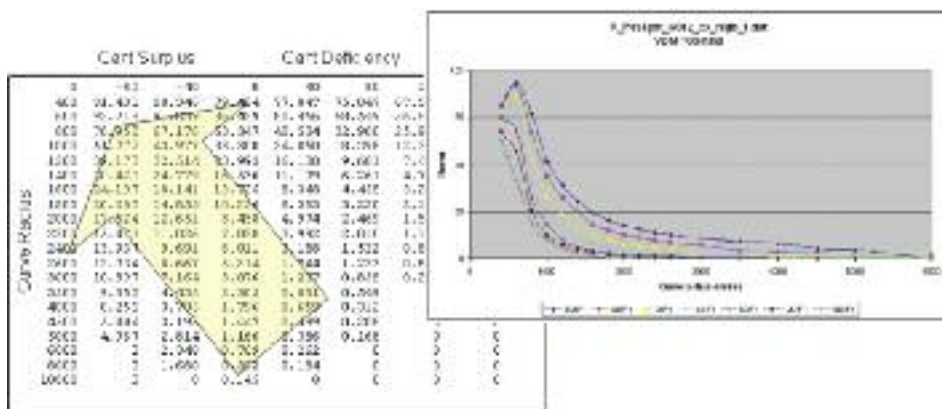

Figure 6: A typical VDM table showing that TGamma increases with curve sharpness and cant surplus.
Figure 6 shows a typical VDM and a quick examination shows that the tighter the curve and the smaller the cant deficiency, the higher the TGamma. Prior to the generation of VDMs, the UK industry had some knowledge of the beneficial aspects of high Cant Deficiency (CD) because some older track design handbooks stated that it could aid bogies to steer. Some track engineers had noticed that by reducing installed cant for a curve of fixed speed, rail damage appeared to be reduced. But the VDMs are the first commonly available numeric description of the role of CD and its somewhat counter-intuitive role in reducing rail damage.
Analysis of individual curves is quite useful to assess the effects of increasing cant deficiency or reducing the magnitude of AL35 or Gauge variations. Present versions of Track-Ex have fundamental arithmetic functions so that cant or AL35 can be scaled by a percentage forming alternative channels for RFA analysis. Track-Ex also allows the user to specify that trains stop at specific locations. This can greatly affect the RCF estimates since any stopping point on or near curves will cause the fleet to run at cant surplus. Figure 6 clearly shows that cant surplus increases TGamma leading to increased RCF or Wear or both. Figure 12 shows the RCF damage at a station